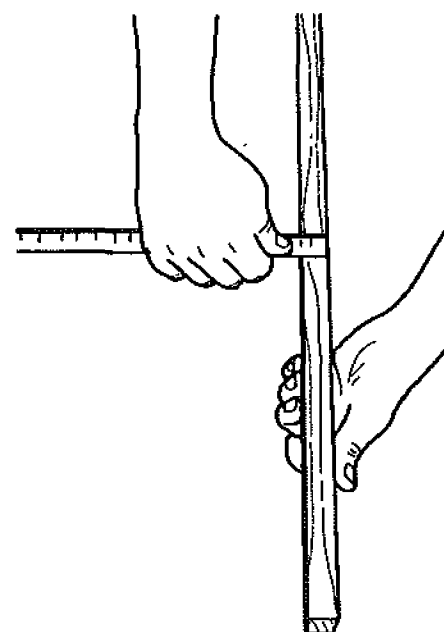

Fig. 49
62. Measure the thickness of the board you are about to plane, as demonstrated in Fig. 49. Turn the thickness adjustment crank to lower the table beyond the thickness of the stock by 1/4".